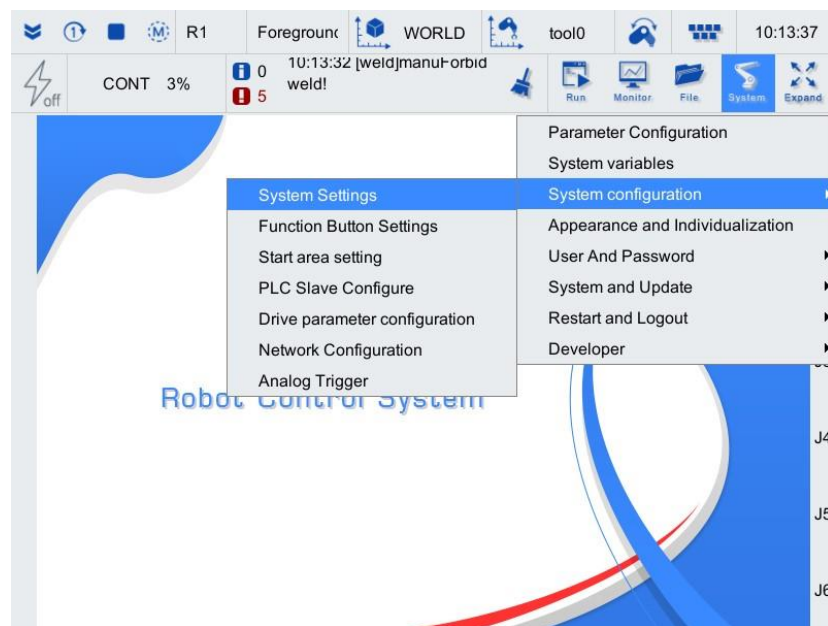

Figure 5-5 PLC slave configuration selection
Step1. On the main interface of the teach pendant, click the [System/System Configuration/PLC Slave Configuration] option, as shown in Figure 5-5.